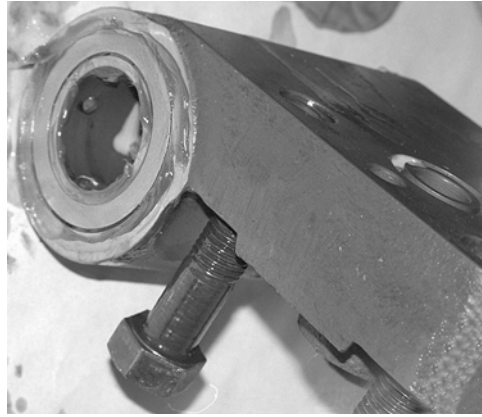

Figure 4-9. Hinge Bracket
4. Remove the hinge bracket (see Figure 4-9).